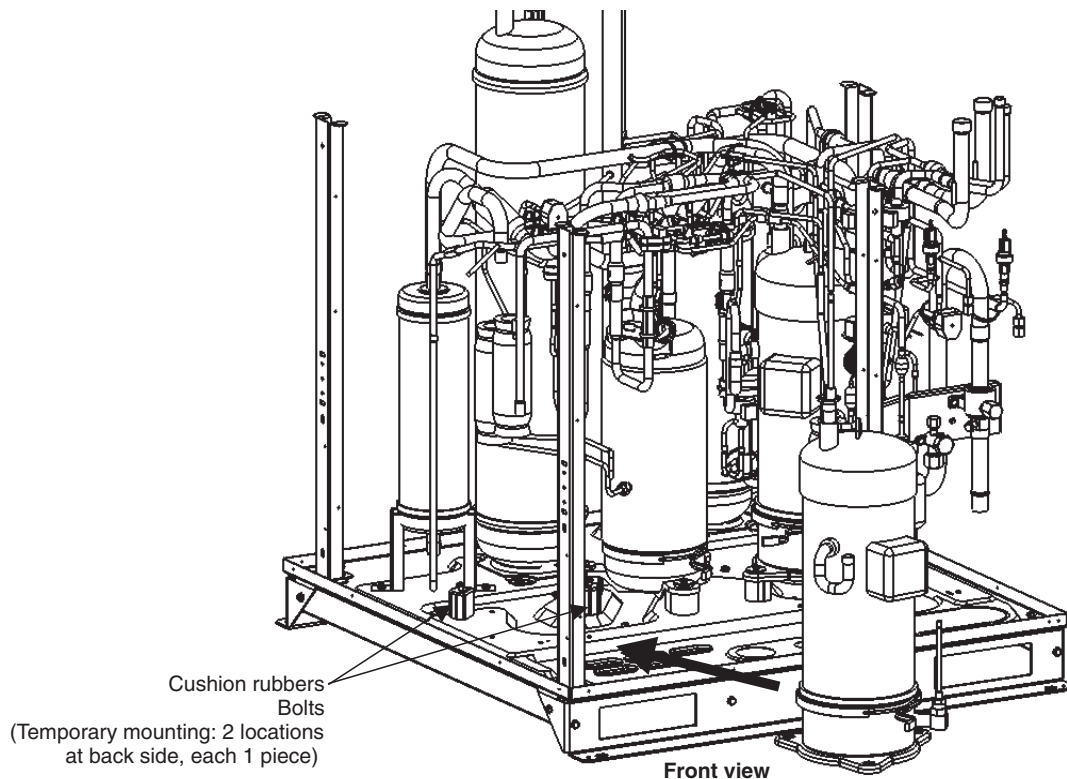

Fig. 27
- (3) Remove the oil equalizer tube connector parts along with the O-ring from the removed compressor and mount them on the replaced new compressor.
- (4) Install the crankcase heater onto the new compressor.
- (5) Temporary mount 2 cushion rubbers with bolts at the position as shown in the figure 27. Set up the leg of the new compressor onto the 2 cushion rubbers.